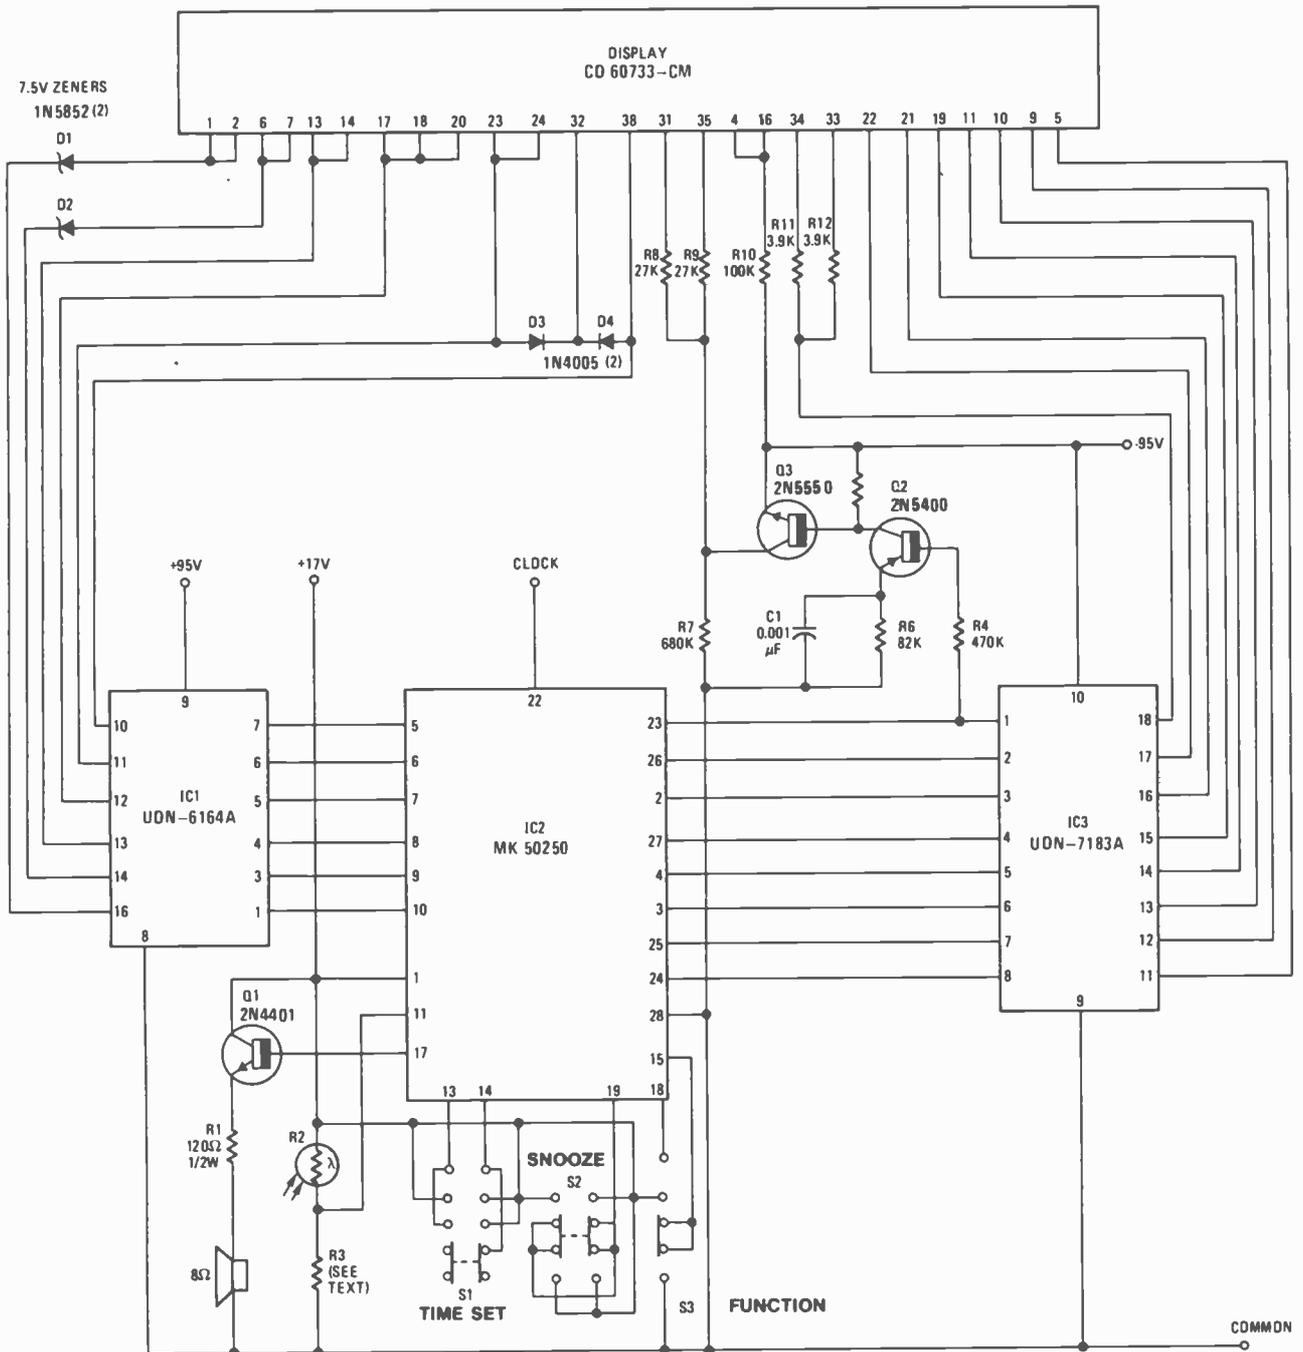

FIG. 3—CLOCK CIRCUIT is built around a MOS IC and has an optional alarm circuit.
2. we've summed to ground so the emitter follower will have a reasonably constant emitter current and thus not distort the waveform. In Fig. 3 we sum to one-half the supply voltage to minimize the offset at the output even before capacitor coupling.